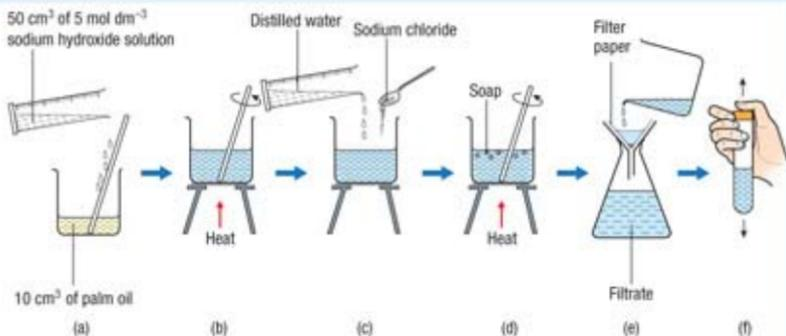

Figure 5.25 Process of soap production
2. Measure and pour 50 cm^3 of 5 mol dm^{-3} concentrated sodium hydroxide solution into the beaker (Figure 5.25(a)). Observe and record the changes of the mixture in the beaker.
3. Stir and boil the mixture in the beaker for 5 minutes (Figure 5.25(b)). Observe and record the changes to the mixture in the beaker after heating.
- Stop heating the mixture. Measure and pour 50 cm^3 of distilled water as well as three spatula full of sodium chloride into the solution in the beaker (Figure 5.25(c)). Observe and record changes to the mixture in the beaker.
- Stir and boil the mixture in the beaker again for 5 minutes (Figure 5.25(d)).
- Filter the mixture in the beaker (Figure 5.25(e)).
- Add a little water to the dried residue in a test tube and shake it. Observe and record the changes when the residue is mixed with water and shaken, and when you touch it with your fingers (Figure 5.25 (f)).